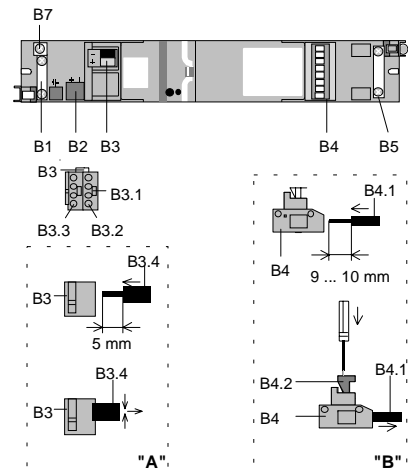

Figure 3: Connections
Slipping off bus connection blocks (Figure 3)
Slipping on bus connection blocks (Figure 3)
Connecting bus cables (Figure 3 "A")
- The sheathing of the bus cable must be attached to the casing of the built-in device via the conductor fixing (B1). When using a cable with shielding, it can be screwed onto the terminal (B7, Figure 3).
The recess (B2) can be used to accommodate an overvoltage protection which is connected to the bus connection block in parallel with the bus line (Figure 3).
Disconnecting bus cables (Figure 3 "A")
Connecting input circuits (Figure 3 "B")
- The sheathing of the bus cable must be attached to the casing of the built-in device via the conductor fixing (B5, Figure 3).
When using shielded signal cables, these can be screwed to the terminal (B5, Figure 3)
Disconnecting input circuits (Figure 3 "B")